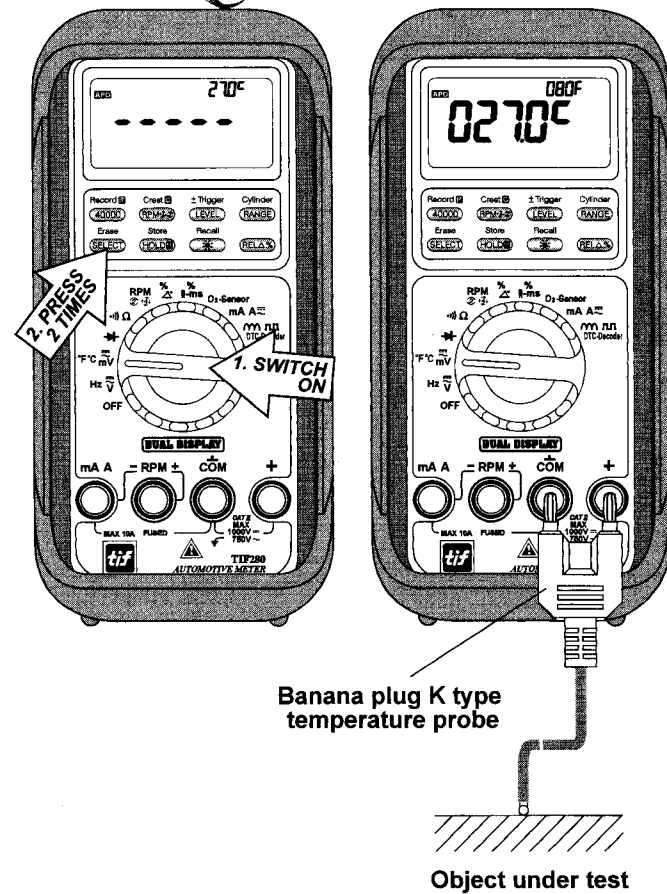

FIG 5. TEMPERATURE FUNCTION
- 5) Touch the end of the thermo probe to the measurement surface and observe the digital display with °C in the main display, and °F in the second display. See **FIG 5**